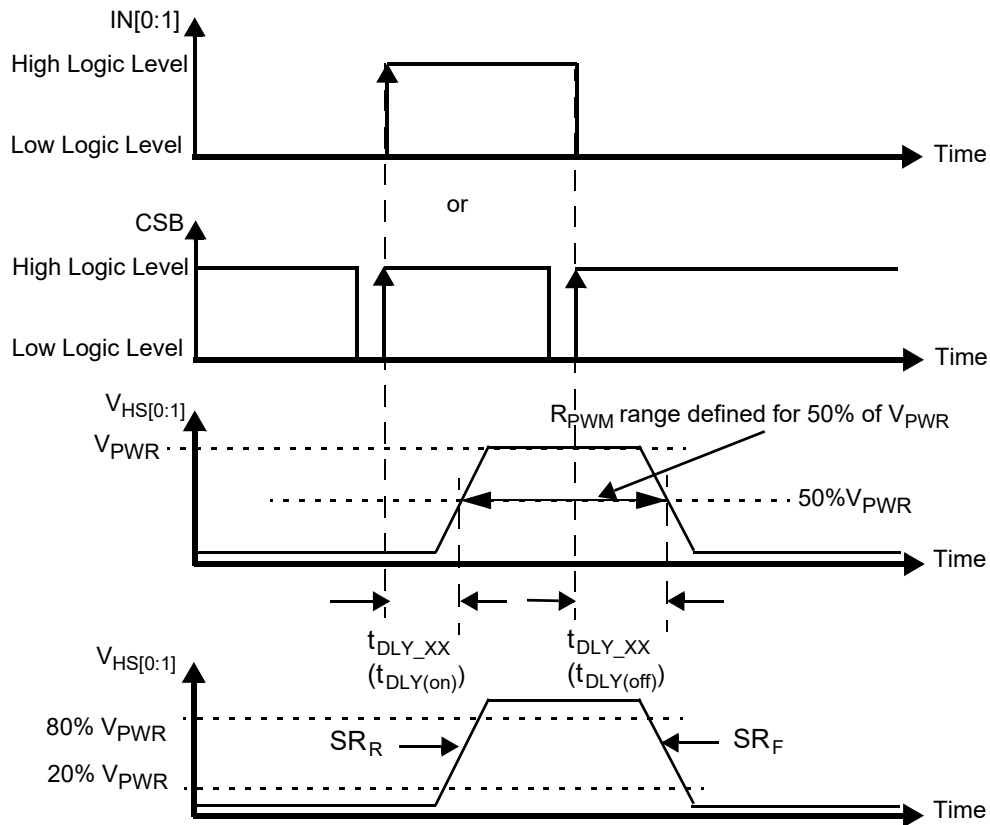
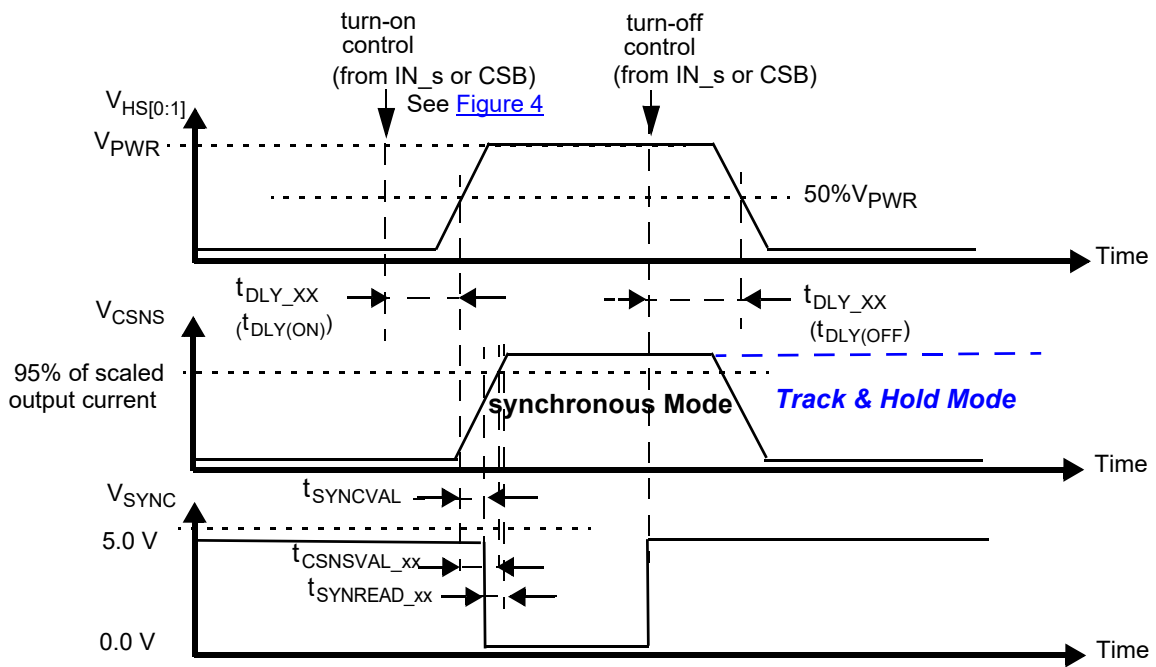

Figure 4. Output voltage slew rate and delay
Figure 9. Synchronous and Track & Hold current sensing modes: associated delay and settling times
27. Rising and Falling edge slew rates specified for a 20 % to 80 % voltage variation on a 10.0 Ω resistive load (see Figure 4).
29. Time required to switch off the channel after detection of overtemperature (OT), overcurrent (OC), SC or UV error (time measured between start of the negative edge on the FSB pin and the falling edge on the output voltage until $V(HS[0:1]) = 50\%$ of V_{PWR}).
30. Settling time ($= t_{CSNSVAL_XX}$), SYNC output signal delay ($= t_{SYNCVAL_XX}$) and Read-out delay ($= t_{SYNREAD_XX}$) are defined for a stepped load current ($100\text{ mA} < I(LOAD) < IOCLX_A$ FOR $CSNS_RATIO_S = 1$, AND $300\text{ mA} < I(LOAD) < IOCLX_A_0$ FOR $CSNS_RATIO_S = 0$). (see Figure 9 and Output current monitoring \(CSNS\)).
To synchronize current sensing with an external process, the SYNC signal can be connected to a digital input of an external MCU. SYNC is asserted logic low when the current sense signal is accurate and ready to be read. The current sense signal on the CSNS pin has the specified accuracy $t_{SYNREAD_XX}$ seconds after the falling edge on the SYNC pin (Figure 9) and remains valid until a rising edge is generated. The rising edge that is generated by the SYNC pin at the turn-OFF instant (internal or external) may also be used to implement synchronization with the external MCU. Parameter t_{SYNVAL_XX} is defined as the time between the instant at the middle of the output-voltage rising edge ($HS[0:1] = 50\%$ of V_{PWR}), and the instant at which the voltage on the SYNC-pin drops below 0.4 V (V_{SOL}). The SYNC pins of different devices can be connected together to save micro-controller input channels. However, in this configuration, the CSNS function of only one device should be active at a time. Otherwise, the MCU does not determine the origin of the SYNC signal. The SYNC pin is open drain and requires an external pull-up resistor to V_{DD} .